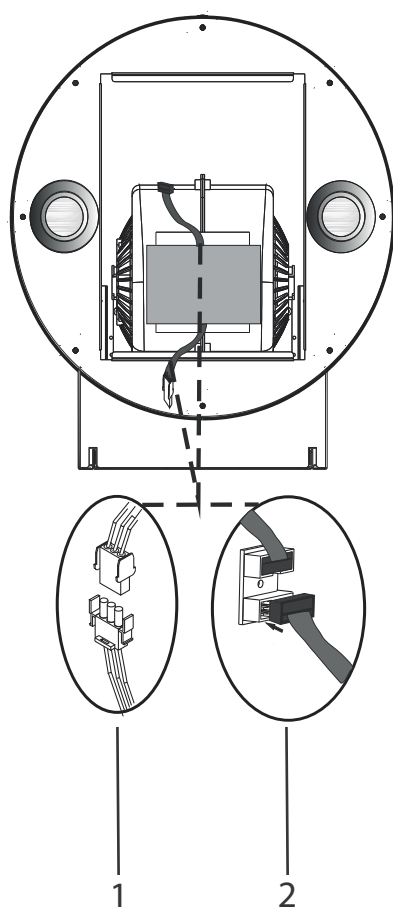

Fig. 18
- 7.** ➤ Connect the socket and switch connections (Fig. 18).